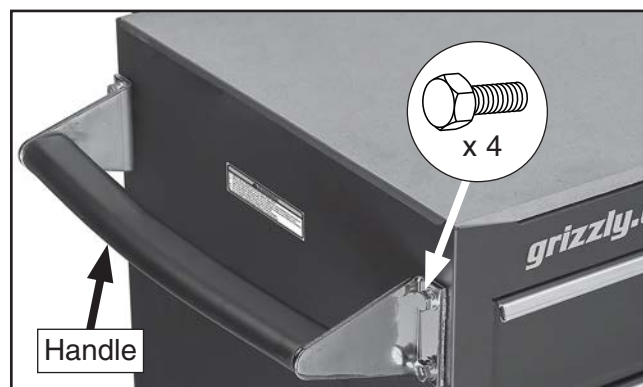

Figure 2. Handle installed.
1. Attach handle on preferred side of tool cabinet using four M8-1.25 x 25 hex bolts (see Figure 2). **Do not over-tighten!**